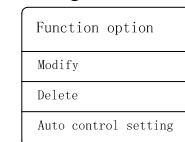
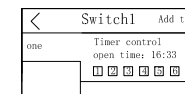

Fig. 4
Fig. 5
- a. Press and hold the switch ID to access a pop-up box as shown in Fig. 4. Set up auto control setting, and check the pre-set automatic control conditions as shown in Fig. 5.